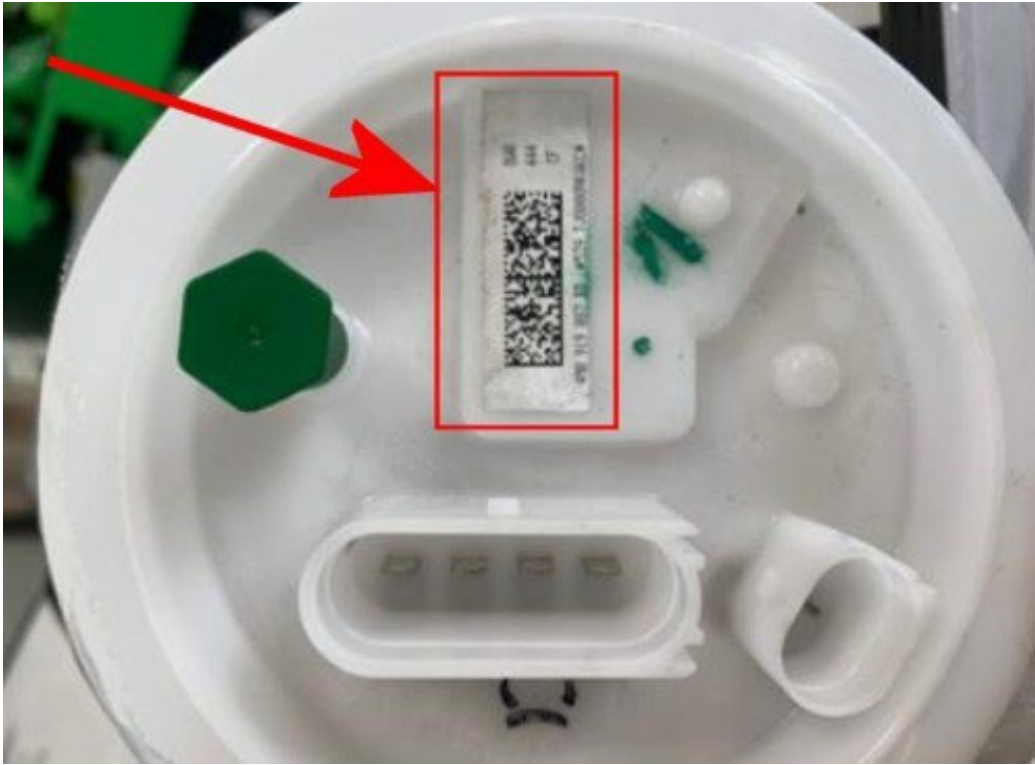

Figure 3
**IMPORTANT:** Once the fuel delivery module has been replaced, the operative should attach a clear photograph of the manufacture information label as shown in Figure 3